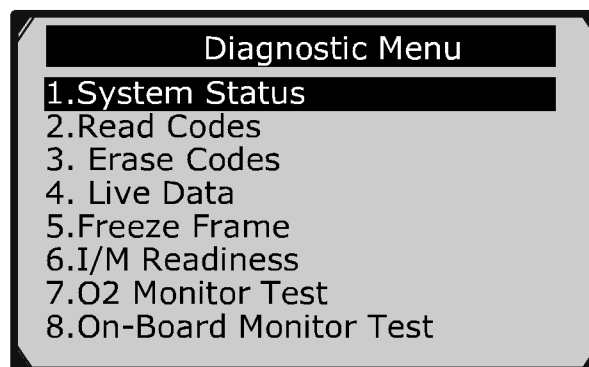

Figure 6.3
- 7) View a summary of system status (MIL status, DTC counts, Monitor status) on screen. (Figure 6.1 ) Press **OK** button for **Diagnostic Menu** (Figure 6.3) to come up.
- 1) Use **UP/DOWN** scroll button to select **Read Codes** from **Diagnostic Menu** and press **OK** button. (Figure 6.3 )
- 1) Use the **UP/DOWN** scroll buttons to select **Erase Codes** from **Diagnostics Menu** and press the **OK** button. (Figure 6.3)
- 1) To view live data, use the **UP/DOWN** scroll button to select **Live Data** from **Diagnostic Menu** and press the **OK** button. (Figure 6.3)